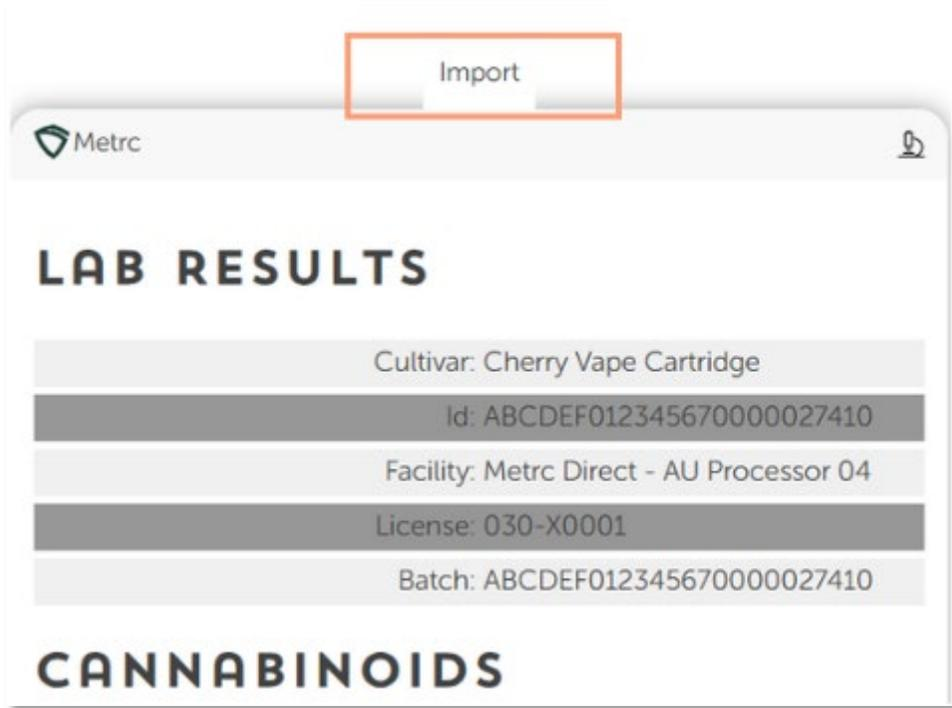

Figure 15: Package test result preview and Import button
6. Review the test results and then select the Import button - **see Figure 15.**